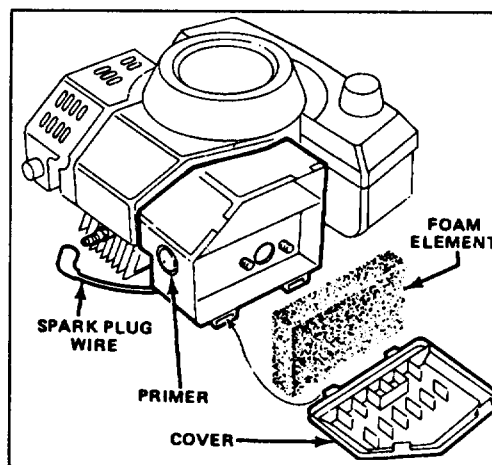

Figure 11
1. Stop engine and pull wire off spark plug (Fig. 11).
2. Lift tabs at top of air cleaner cover and pivot cover down. Clean cover thoroughly (Fig. 11).
3. If outside of foam element is dirty, remove it from air cleaner body (Fig. 11). Clean thoroughly.